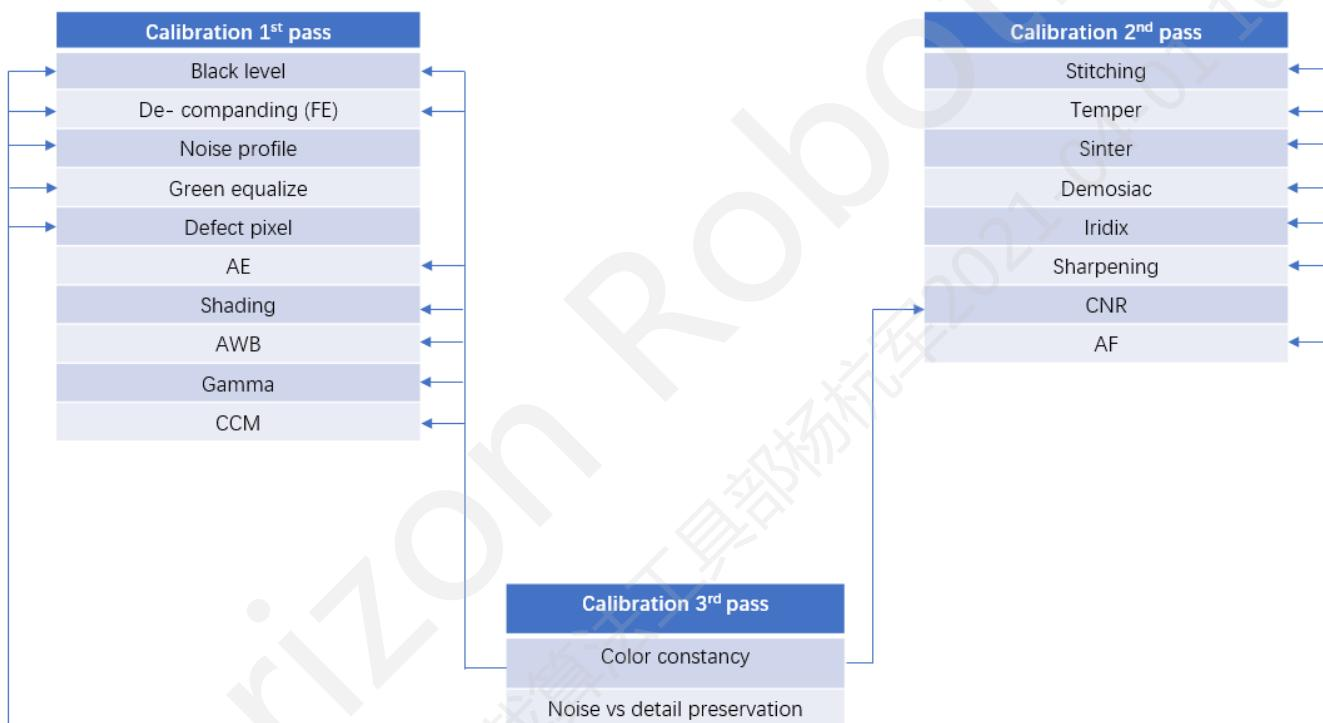

Figure 2.1-2 Tuning cycles
**Note: Throughout the three phases, be cautious when altering parameters for a module after initial tuning. Any change will be reflected throughout the following modules with respect to either color reproduction or noise relative to detail, as seen in Figure 2.1-2. The solution to this is to carry out tuning in cycles. For example, if the black level needs to be corrected, as it is the first module in the pipeline and affects both color and noise/detail, all other modules will require re-tuning.**